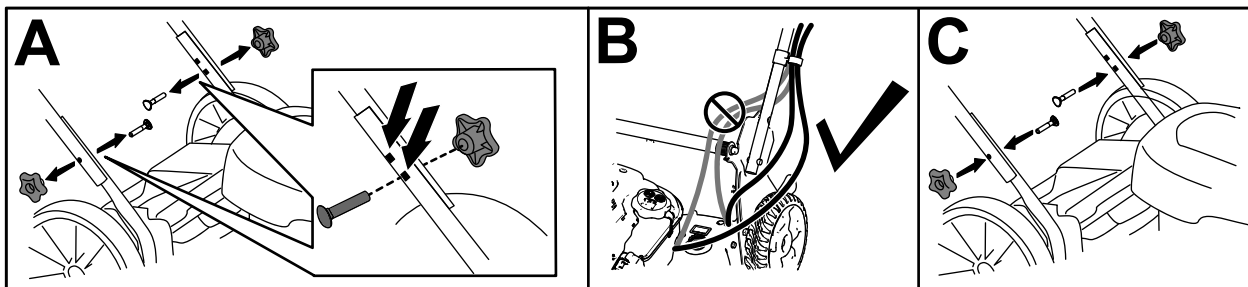

Figure 10
1. Remove the handle knobs and corresponding bolts from the lower handles (A of Figure 10).
2. Move the handle to 1 of 2 positions (A of Figure 10).
3. Ensure that the cables are routed to the outside of the handle (B of Figure 10).
4. Install the handle knobs with the corresponding bolts and tighten them firmly by hand (C of Figure 10).